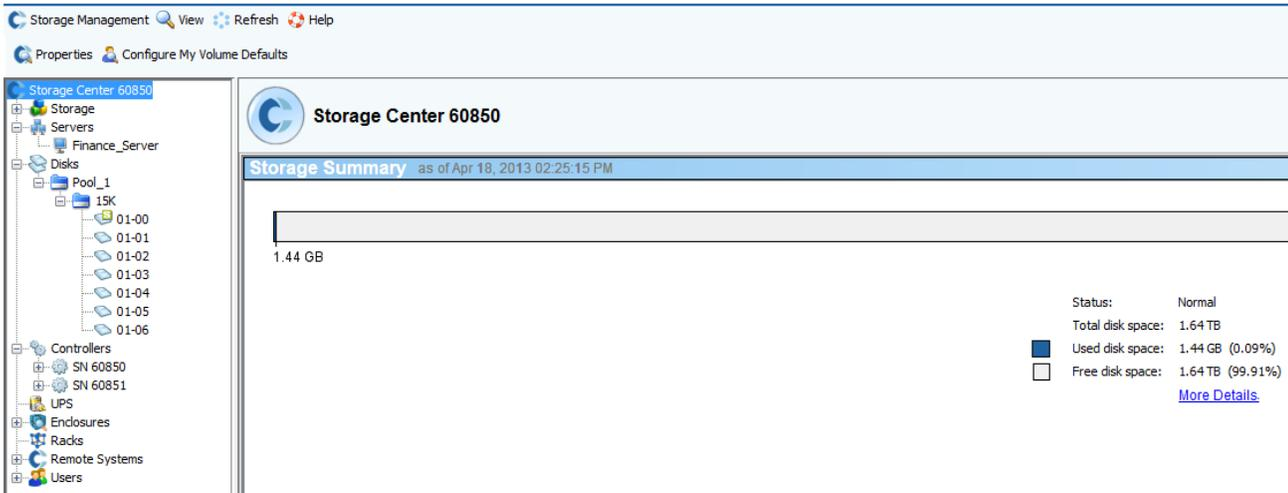

Figure 28 Storage Center System Manager GUI displays disk pool "Pool_1" with 1.64 TB free space
1. During initial configuration of the Compellent Storage Center, a disk pool labeled **Pool_1** was created consisting of seven 300 GB drives. The total disk space is 1.64 TB; this can be seen in the screen shot of the **Storage Center System Manager** GUI as shown below in Figure 28.